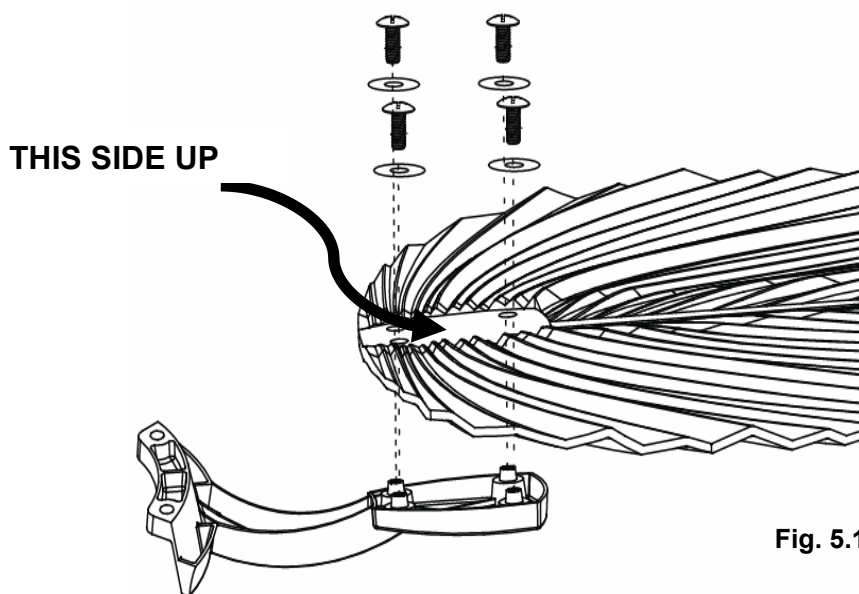

Fig. 5.1
1. Assemble the fan blades to the fan blade bracket by tightening the 4 blade screws and washers. Take note the correct side of the blades with the marking “THIS SIDE UP” is on the screw head side. (Fig. 5.1).